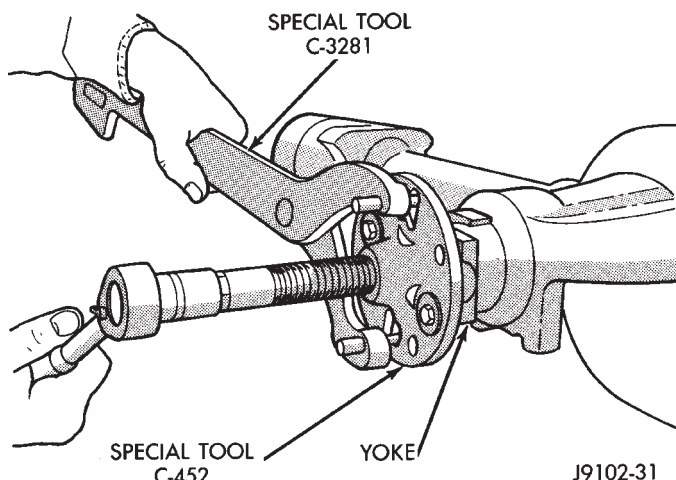

Fig. 10 Pinion Yoke Removal
(9) Measure the amount of torque necessary to rotate the pinion gear with a (in. lbs.) dial-type torque wrench. Record the torque reading for installation reference.
(10) Using a short piece of pipe and Holder 6958 to hold the pinion yoke, remove the pinion nut and washer.
(11) Use Remover C-452 and Wrench C-3281 to remove the pinion yoke and pinion seal excluder (Fig. 10).
(12) Using a suitable pry tool, or a slide hammer mounted screw, remove the pinion seal.
(13) Remove the front pinion bearing using a pair of suitable pick tools to pull the bearing straight off the pinion gear shaft. It may be necessary to lightly tap the end of the pinion gear with a rawhide or rubber mallet if the bearing becomes bound on the pinion shaft.
(14) Remove the collapsible spacer.
- (2) Remove skid plate, if equipped.
- (3) Mark C/V driveshaft and axle shaft flanges for installation alignment reference.
- (4) Remove bolts holding the driveshafts to the axle shafts.
- (5) Separate the driveshafts from the axle shafts.
- (6) Mark the propeller shaft and pinion yoke for installation reference.
- (7) Remove the propeller shaft from the yoke.
- (8) Rotate the pinion gear three or four times.
- (9) Measure the amount of torque necessary to rotate the pinion gear with a (in. lbs.) dial-type torque wrench. Record the torque reading for installation reference.
- (10) Remove differential assembly from axle housing.
(11) Using Holder 6958 to hold yoke and a short length of 1 in. pipe, remove the pinion yoke nut and washer.
(12) Using Remover C-452 and Wrench C-3281, remove the pinion yoke and pinion seal excluder from pinion shaft (Fig. 10).